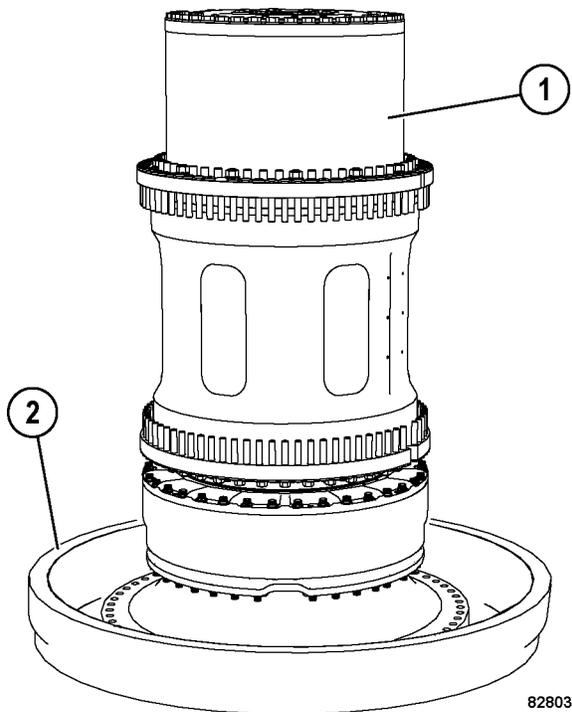

FIGURE 50-30.
2. Lift the wheel motor transmission and stand the assembly vertically in an oil pan as shown in Figure 50-30. The weight of the assembly is approximately 13 000 kg (28,660 lb).